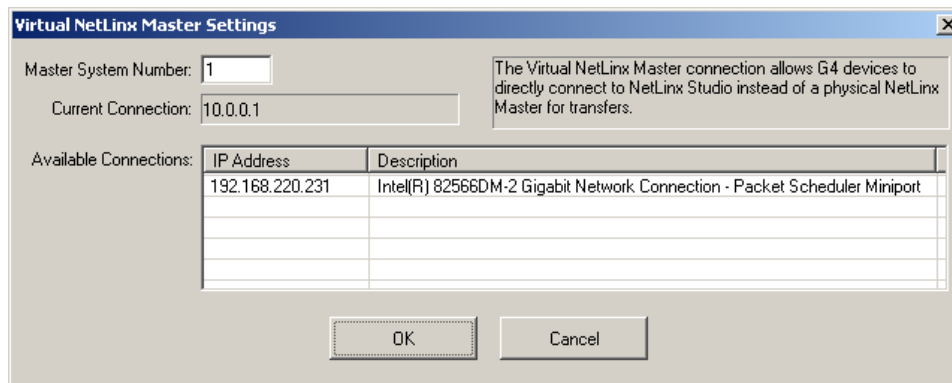

FIG. 27 NetLinX Studio - Virtual NetLinX Master Settings dialog
5. Click the **Edit Settings** button on the *Communications Settings* dialog to open the *Virtual NetLinx Master Settings* dialog (FIG. 27).